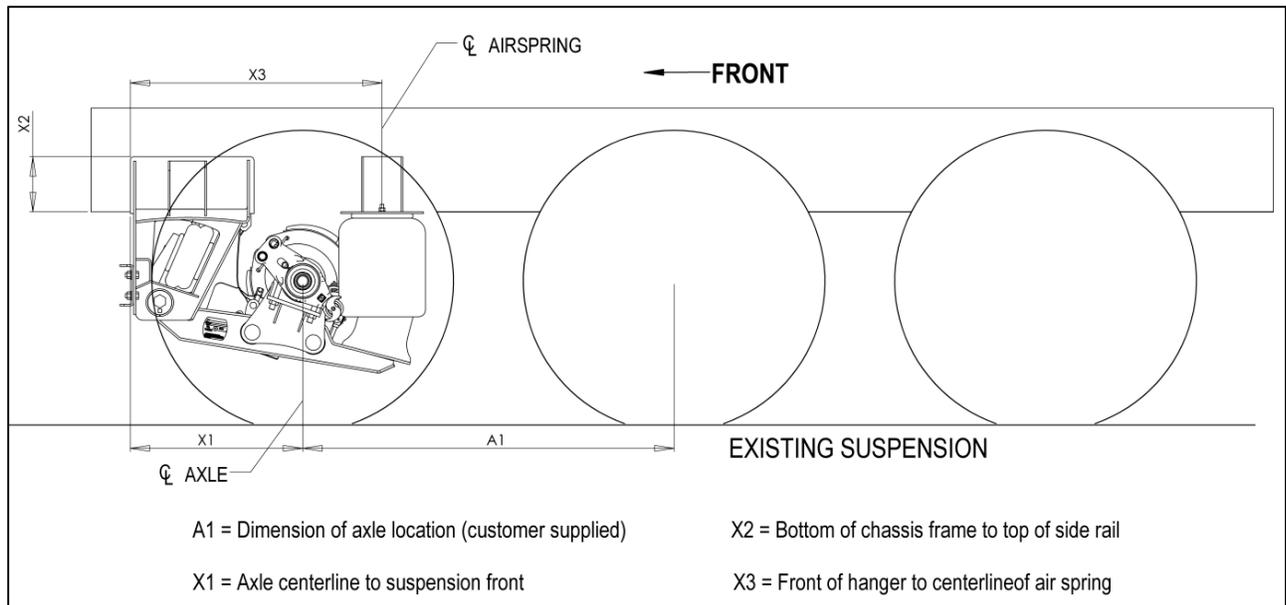

Figure 5
- 3.2. Refer to the auxiliary axle suspension system drawing and mark the centerlines and boundary areas of the frame brackets and upper bag plates on the vehicle's frame rails (See **Figure 5**).